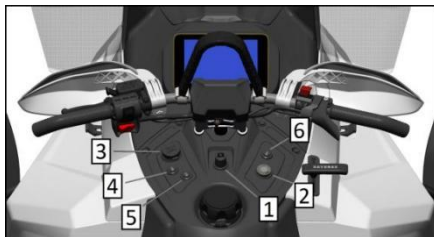

Fig. 8
Insert the key (Figure 8, item 2) into the lock and check the indicator position
The heating element switches of the steering handle (Figure 8, Position 4) and throttle handle (Figure 8, Position 5) are located at the rear of the front panel on the left side of the steering column.
The heating element on button of the passenger handle (Figure 8, bit 6) is located at the rear of the front panel on the right side of the driving column.